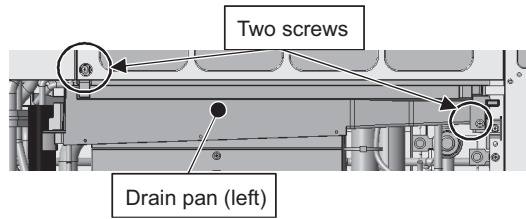

Figure 4
- (3) Remove the left drain pan by unscrewing the two screws. (See Figure 4.)
Be sure to remove the two rod holders holding the check joints to the drain pan. (See Figure 4.)